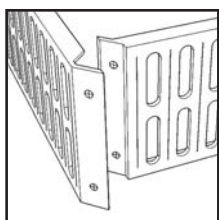

Figure 1
Attach Legs (B) to Side Frames (C) with Flat Washers, Spring Washers, Nuts and Nut Caps. (See Figure 1 and Figure 2)